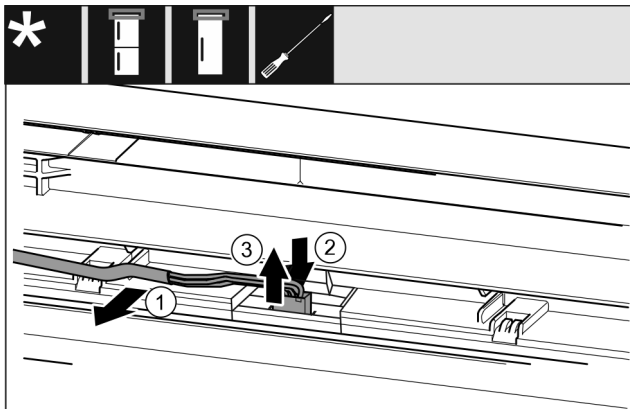

Fig. 19 Fridge/freezer combinations/freezers/cooling units
- ▶ Carefully loosen the cable Fig. 19 (1) from the guide in the door.
- ▶ Press back the tab Fig. 19 (2) behind the plug.
- ▶ Pull the plug Fig. 19 (3) upward carefully.